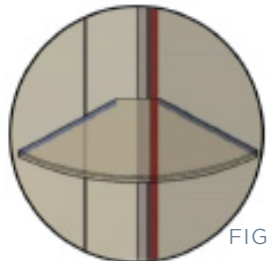

FIG.31
- After 24-48 hours remove stabiliser blocks (FIG 31).